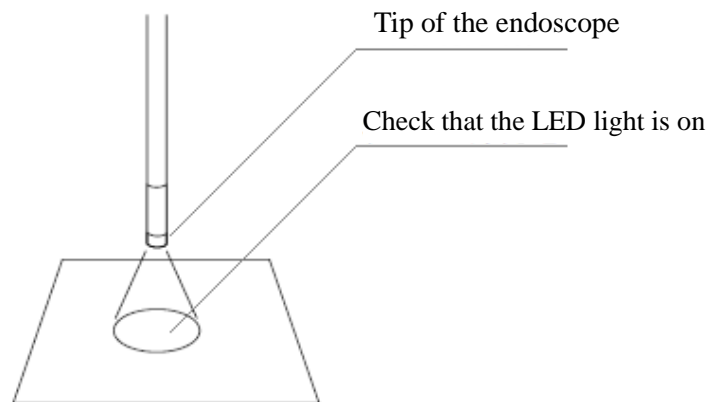

Figure 3.12
1. After displaying the real-time image in the computer, check whether the LED light at the tip of the veterinary endoscope is on. (As shown in Figure 3.12)